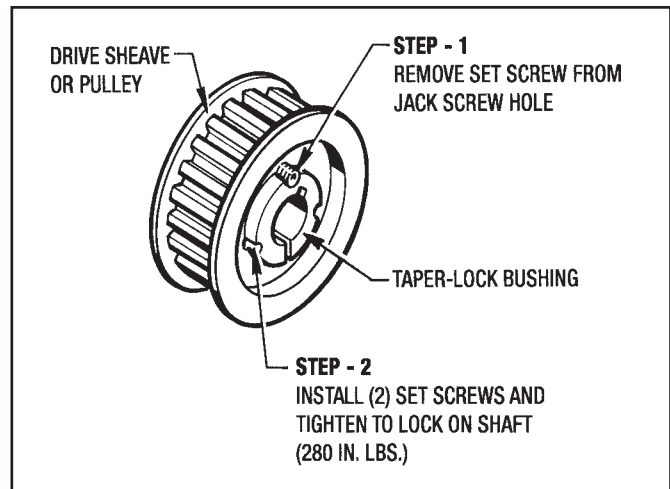

Figure 6.2 - Installation of Drive Sheaves
1. Install the (2) Sheaves (#738) and Bushings (#740) and (#741) back on their respective shaft. (See Figure 6.2 for Installation Procedure.)
1. Using the same procedure as described for the Output Sheaves and Drive Belt, install Sheave (#710) on the *Posidyne* Input Shaft and Sheave (#711) on the Drive Motor Shaft. *(See Figure 6.2 and 6.3 for Installation and Alignment Procedure.)*